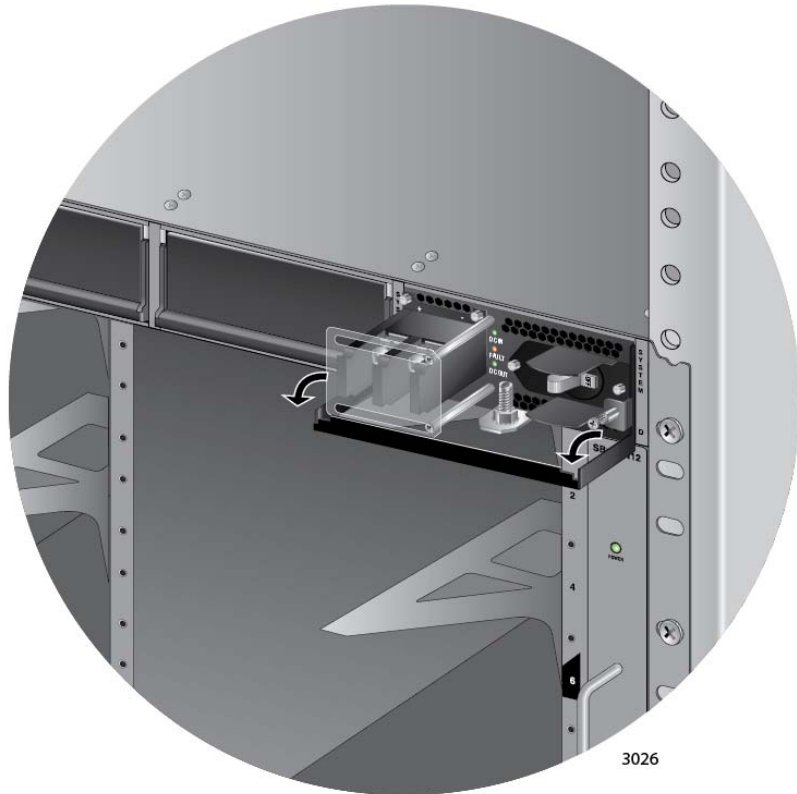

Figure 62. Locking the Handle on the AT-SBxPWRSYS1 DC System Power Supply
8. Lower the locking handle of the power supply module to secure the module in the slot, as shown in Figure 62.